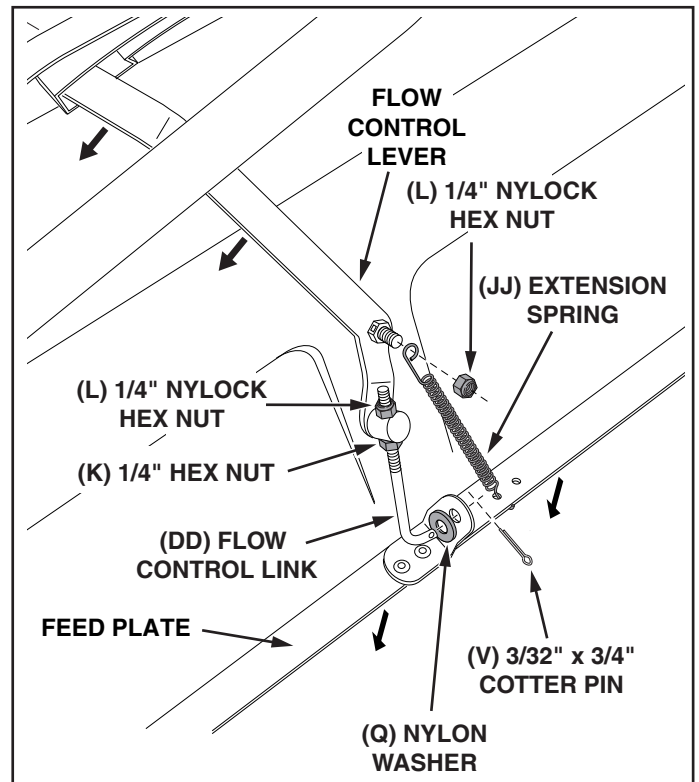

FIGURE 10
24. Move the flow control lever as far as it will go to the "OFF" position. Push the feed plate back as far as it will go to the closed position. See figure 10.
25. Place a nylon washer onto the bent end of the flow control link and then insert the link into the feed plate bracket. Secure it with a 3/32" x 3/4" cotter pin. See figure 10.
26. Tighten the lower 1/4" hex nut until it touches the bottom of the ferrule, then tighten the upper 1/4" nylock hex nut until it is snug against the top of the ferrule. See figure 10.
27. Hook the open end of the spring into the feed plate. Place the closed end of the spring onto the end of the hex bolt in the flow control lever. Secure it with a 1/4" nylock hex nut. See figure 10.
28. Open and close the feed plate using the flow control lever. Check to make sure the feed plate is closed completely when the lever is in the "OFF" position. If the feed plate does not close completely, adjust the 1/4" nylock hex nuts on the flow control link. See figure 10.